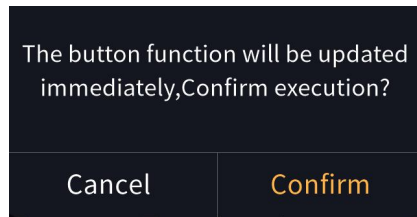

Fig.2.3.17
(3) Complete the customize link. Touch icon⑮ to complete the customize setting for button linking to the functions, then pop up the window as shown in Fig.2.3.17, save the setting after clicking "Confirm" and return the previous interview, the operated button functions will be updated immediately.